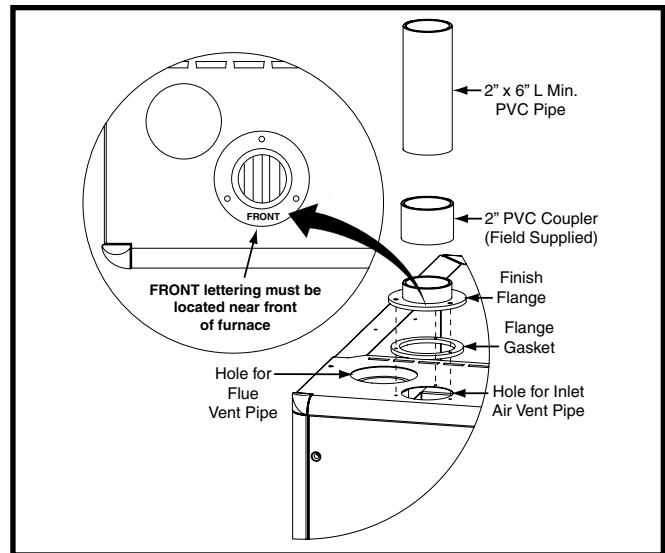

Figure 13. Finish Flange
The finish flange must be installed to vent the combustion air pipe through the top of the furnace. **NOTE:** For proper installation it is important that the pipe and screw holes in the finish flanges, gasket, and cabinet are aligned. See Figure 13.
**NOTE:** Make sure the flange is properly oriented so that the FRONT lettering is located near the front of the furnace as shown in Figure 13.
4. Attach a 2" PVC coupler (field supplied) to the finish flange along with a 6" minimum length of 2" PVC pipe. See Figure 13.